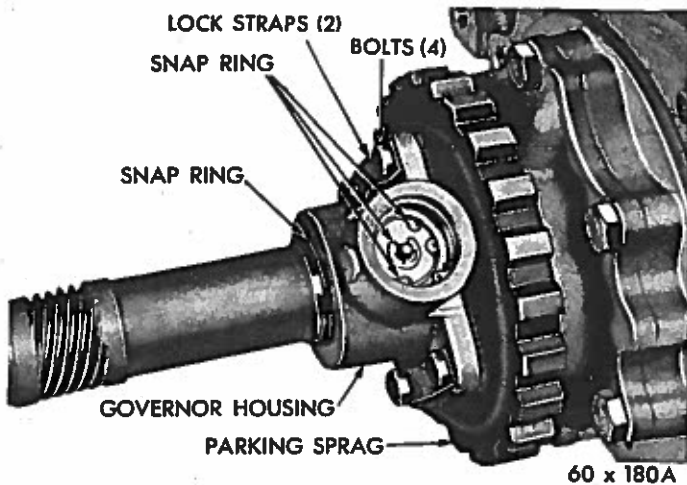

Fig. 32—Governor Shaft and Weight Snap Rings
(1) Remove the extension housing. See Paragraph 23.
(2) Using a screw driver carefully pry the snap ring from the weight end of governor valve shaft (Fig. 32). Slide the valve and shaft assembly out
(1) Assemble the governor housing to the parking lock sprag (if disassembled) and tighten bolts finger tight. Make sure oil passage of governor housing aligns with passage in sprag.
(2) Position parking lock sprag and governor assembly on output shaft. Align the assembly so the governor valve shaft hole in governor body aligns with the hole in the output shaft, then slide the assembly into place. Install snap ring behind the governor housing (Fig. 32). Tighten housing to sprag bolts to 100 inch-pounds torque. Bend ends of lock straps over bolt heads.
(3) Assemble the governor weights and spring, and secure with snap ring inside of large governor weight. Place the weight assembly in governor housing and install snap ring.
(4) Place the governor valve on valve shaft, insert the assembly into housing and through the governor weights. Install the valve shaft retaining snap ring. Check valve and weight assembly for free movement after installation.
(5) Install the extension housing, transmission flange and connect propeller shaft.
(6) Connect and adjust the parking lock cable. Refer to Paragraphs 10 and 15.